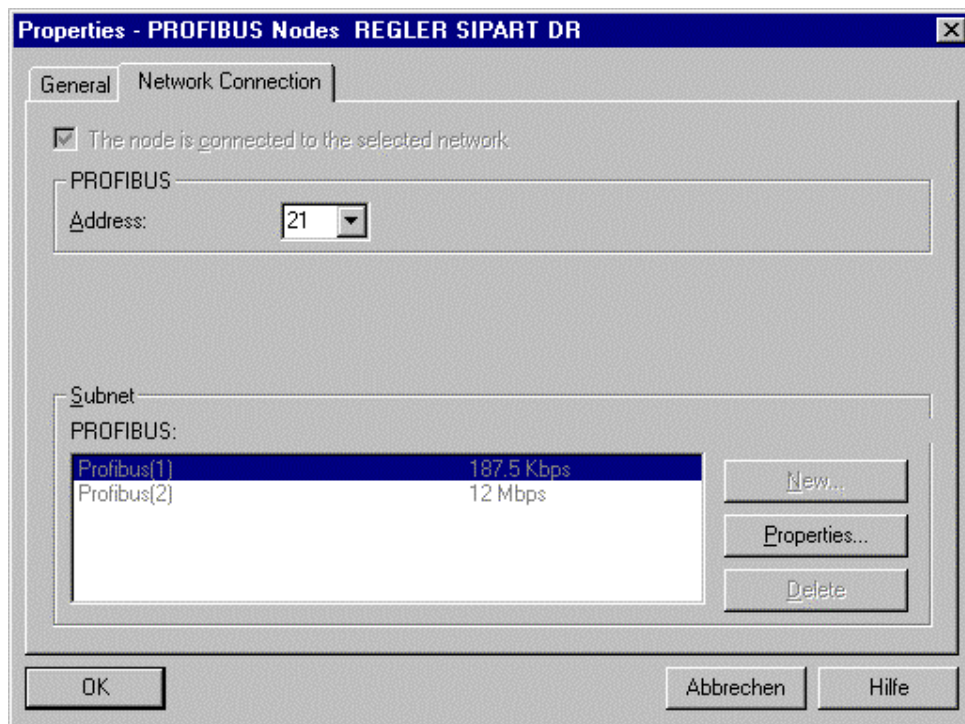

Figure 3
- Set the SIPART DR 21 to user address 21 (Figure 3).